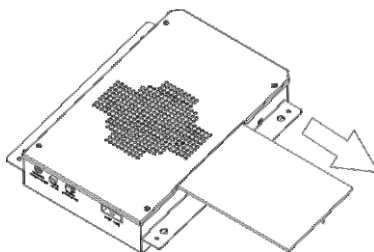

Figure 6.37 Schematic diagram of filter maintenance
(1) Withdraw the filter screen from the filter screen side of the purifier, as shown in Figure 6.37;